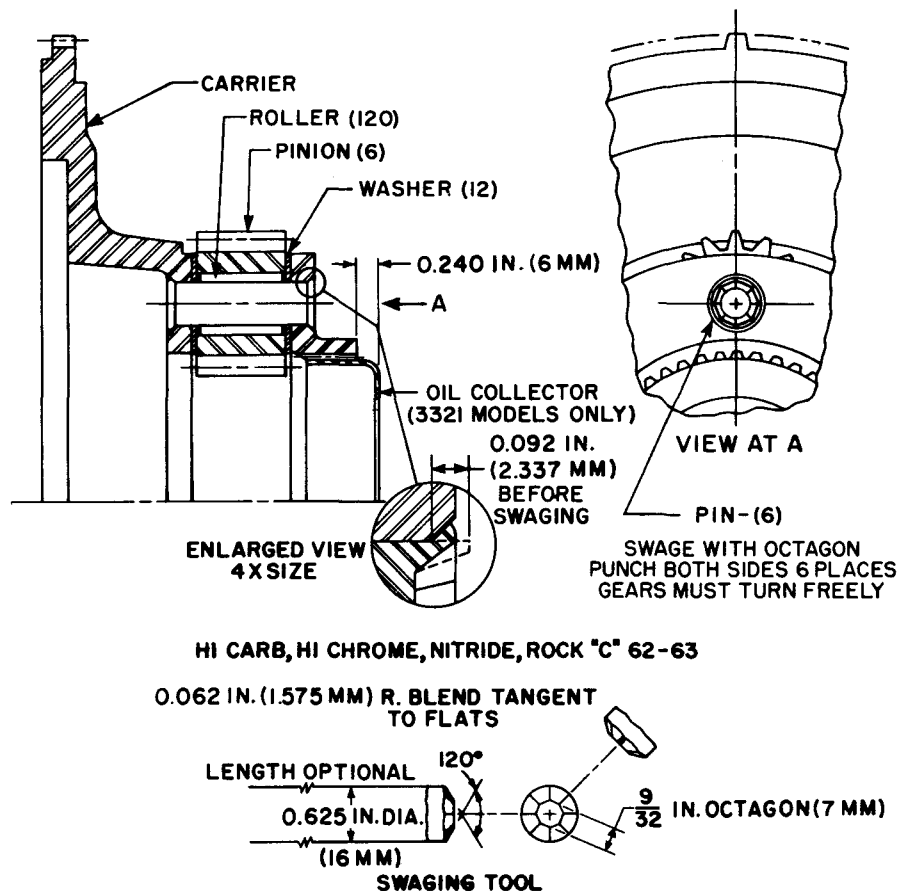

Fig. VI-28. High-range planetary carrier assembly—cross section
g. Assembly of High-range Clutch Housing and Piston Assembly (items 43 thru 48, A, foldout 10)
(1) Lubricate the seal rings and the piston housing.
(2) Install the piston assembly, flat side first, into the piston housing.
a. Disassembly (item 33, A, foldout 10, and refer to fig. VI-28)
(4) CRT 3321 models include an oil collector 40 (A, foldout 10). This collector need not be removed from carrier 34 unless replacement is necessary.
c. Assembly (item 33, A, foldout 10, and refer to fig. VI-28)
(1) On CRT 3321 models, if oil collector 40 (A, foldout 10) was removed from carrier 34, install a new collector. Press it, open side first, into the rear of the carrier, until it projects 0.240 inch (6 mm) from the rear of the carrier.
(2) A pinion alining tool as described in 20c(1), above, is required for operations outlined below.
(3) Coat the bore of each pinion with oil-soluble grease.
(6) Repeat procedures (4) through (8), above, for the remaining pinion groups. Align the pinion groups in the carrier by inserting the aligning tool into each spindle bore.
(7) Press new spindles through the carrier and pinions until they project 0.092 inch (2.3 mm) from the bottoms of the countersinks at the rear of the carrier (see inset detail of fig. VI-28).
(8) Stake both ends of the spindle with the tool shown in fig. VI-28.